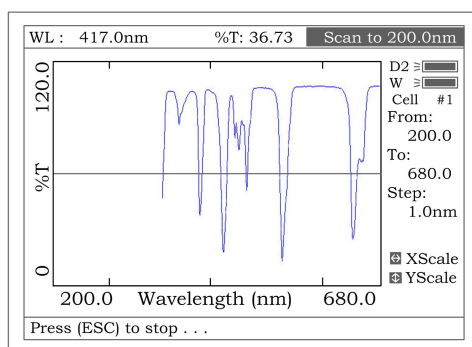
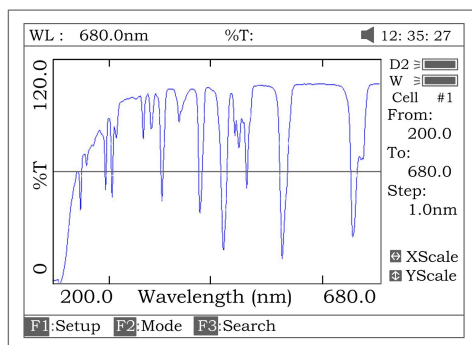

Fig 45
Fig 46
4. Put the sample cuvette into Light Path, press **【START】** to scan the sample (Fig 45) **【ESC/STOP】** to stop scanning. When scan has finished the beeper beeps 3 times (Fig 46).
Note: The report always is printed in Fig 46